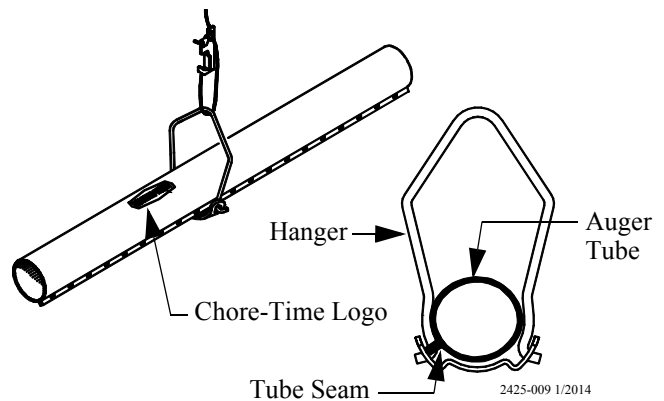

Figure 40. Hanger Installation
3. To achieve total feed drop out all along the system, the Chore-Time Logo should be centered at the crown of the tubes and all the Hangers should be installed as shown in **Figure 40**.
5. Install the Hangers on the feed line tube at the 8' [2.4 m] spacings determined by the suspension drop lines. **Figure 40** and **43** show the proper installation of the Hanger Assembly. Make sure the outlet drop hole is downward when the Hangers are installed, otherwise feed will not be allowed to drop into the feeder pan.